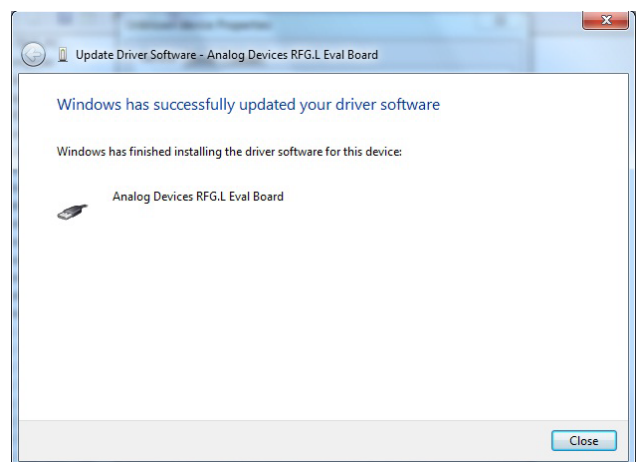

Figure 7. Successful Installation
7. If the installation is successful, the message in Figure 7 appears.